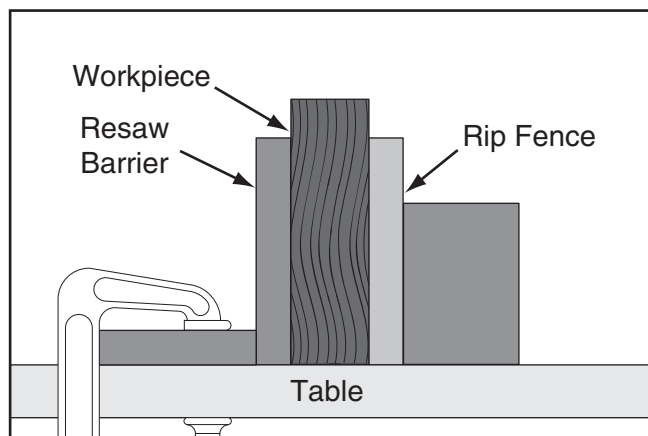

Figure 94. Resaw setup.
3. Place the workpiece against the rip fence and slide the resaw barrier against the workpiece. Now clamp the resaw barrier to the top of the table saw (see **Figure 94**).
8. Repeat **Steps 4–6** until the blade is close to half of the height of the board to be resawn. The ideal completed resaw cut will leave a $\frac{1}{8}$ " connection when the resawing is complete as shown in **Figure 94**. Leaving a $\frac{1}{8}$ " connection will reduce the risk of kickback.